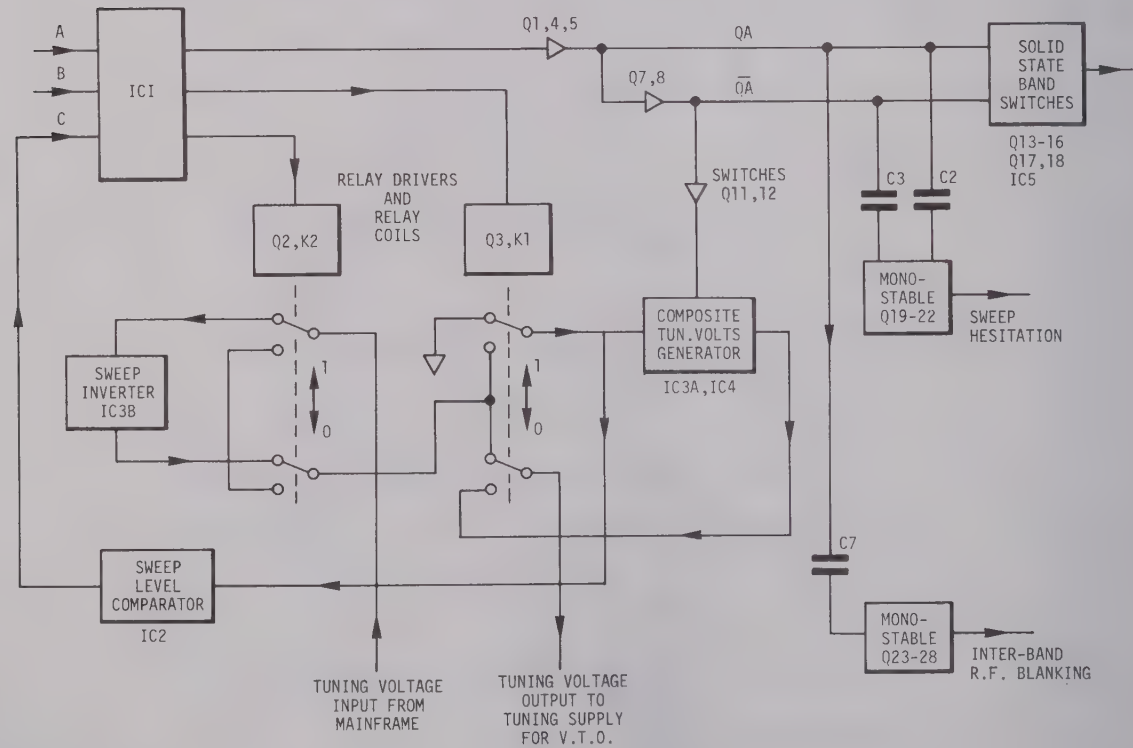

Fig. 17 Block diagram of control logic for 6790A
60. The two basic frequency ranges of the 6790A r.f. unit can be used either singly or in an automatically multiplexed mode in which each sweep cycle covers 10 MHz to 2 GHz with only a momentary pause at the 1 GHz changeover point. This mode is referred to as the WB (wide-band) mode. A block diagram of the control logic for this system is shown in Fig. 17.